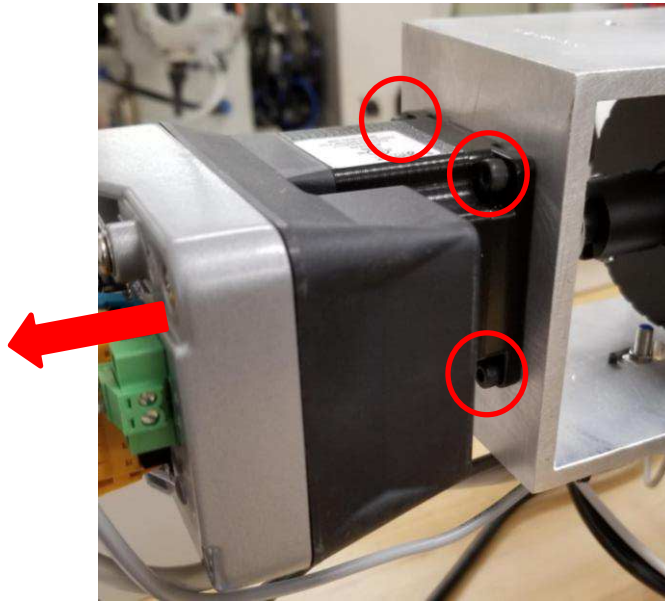

Figure 4
5. Remove (4) M2.5 motor mount socket head cap screws (Figure 4 shows only 3 screws - 1 is hidden). Remove old motor and old flex coupler, leaving drive shaft inserted into the motor coupler.